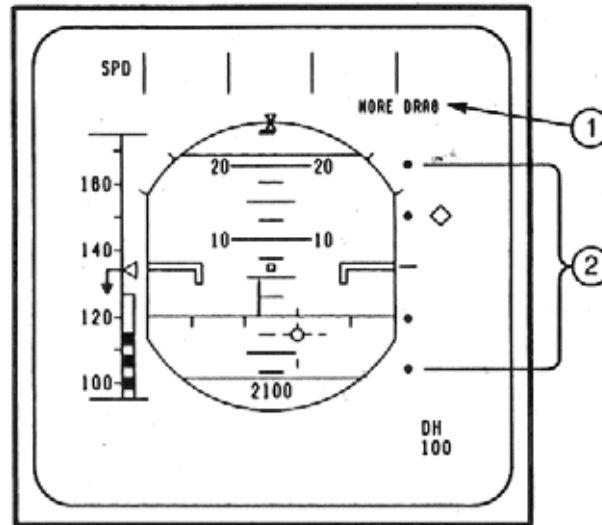

Figure 2-119
Above Path - The FMC commands the AP/FD to increase the vertical rate until the vertical profile is recaptured. This is accomplished by accelerating to the target descent speed + 20 kts., or 290 KIAS, whichever is higher, and increasing the vertical rate in an attempt to reintercept the descent path. If the aircraft is still above the descent path when this speed is reached, the message, "MORE DRAG", is displayed on the PFD (1, Figure 2-119). "MORE DRAG", indicates an over-speed condition exists and speedbrakes are required to maintain the existing speed schedule. The SP message, "LESS DRAG", directly associated with the deployment of the speedbrakes, indicates an under-speed condition exists as a result of the target speed decreasing 10 kts. below target.
Vertical deviations from the descent path are displayed on the PFD Vertical Deviation Scale (2), Figure 2-119),